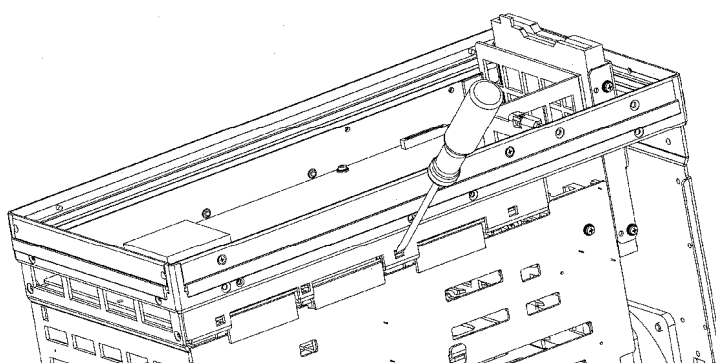

Fig. 3-9 Removing the front module controller
- ▶ Undo the 10 screws with washers (590) of the front module controller board and take out the front module controller as follows (see also Fig. 3-9):